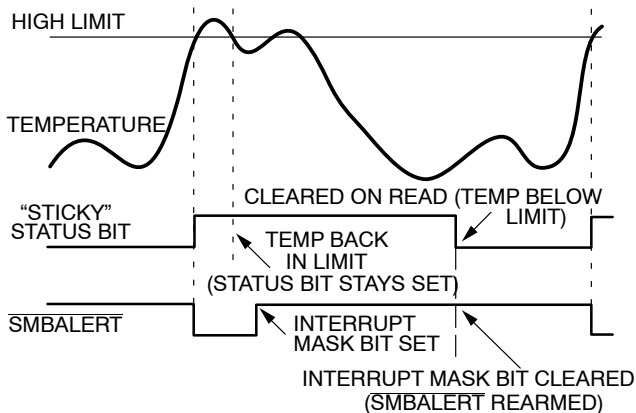

Figure 28. Effect of Masking the Interrupt Source on SMBALERT Output
7. Periodically poll the status registers. If the interrupt status bit has cleared, reset the corresponding interrupt mask bit to 0. This causes the **SMBALERT** output and status bits to behave as shown in Figure 28.